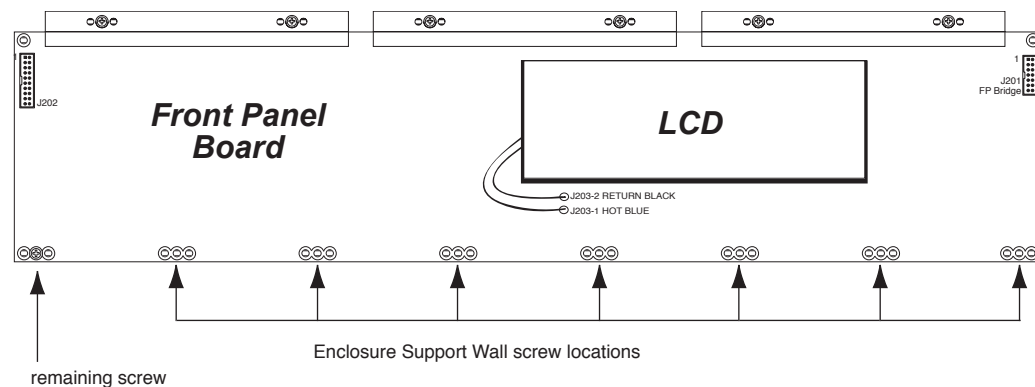

Figure 3-13 Front Panel Board, screw locations
6. Seven of the screws that secure the enclosure support wall also secure the front panel edge of the Front Panel Board. You have already removed the enclosure support wall, but one screw remains securing this edge of the board. See Figure 3-13, and remove the remaining screw.
3. Install the screw that secures the front panel edge. See Figure 3-13.